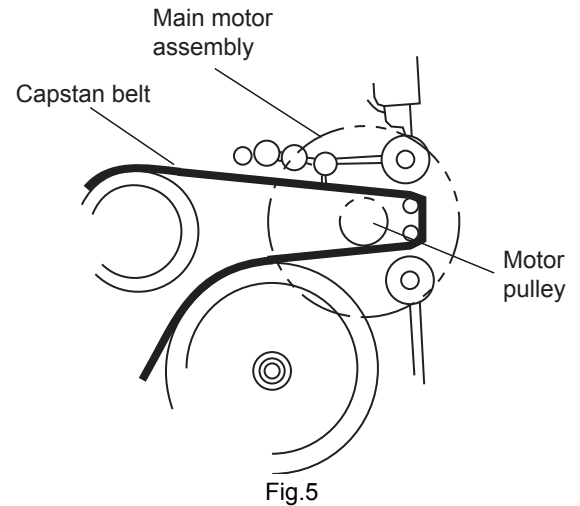

Fig.5
- (2) While raising the main motor, remove the capstan belt from the motor pulley (See Fig. 5).
Be sure to handle the capstan belt so carefully that this belt will not be stained by grease and other foreign matter. Moreover, this belt should be hanged while referring to the capstan belt hanging method in Fig. 5 and 6.